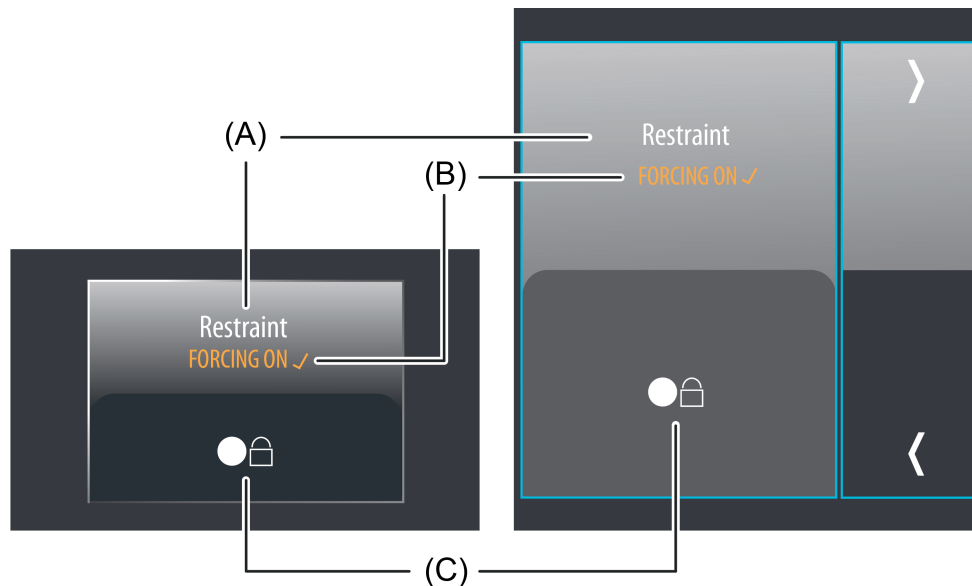

Figure 41: Example of an operating and display element of the KNX function "Restraint"
The display area contains different display elements (figure 41) that are influenced by parameters. A name can be assigned to each KNX function in the configuration software (A). This text name is centred in the display element for display whereby controllable KNX functions are identified for the user (e.g. "Restraint"). In addition, a status text (B) is displayed below the name, which displays the respective switching state selected in plain text depending on the object values (in normal operation or by restraint). The displayed text can be configured separately for each state in the configuration software (e.g. "FORCING ON"). After a device reset, the display shows "---" until an object value of the status text is received or predefined. When the controller has accepted the switching state selected by the sensor surfaces in the object values as valid and thus transfers it to the actuator, the display element displays a ✓ immediately after the status text.